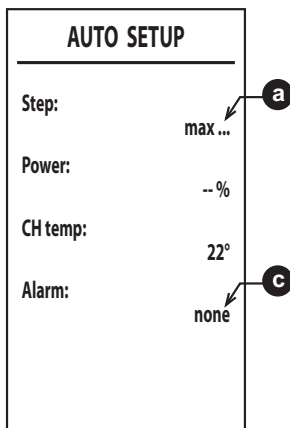

fig. 38
6. After ignition, the burner goes to the various powers (max, med, min) indicated by the point **a** (fig. 38).
8. If the ignition sequence described in point "6" is unsuccessful, the display shows the message **max_err** at the point **a** and an error code at the point **c** (fig. 38).